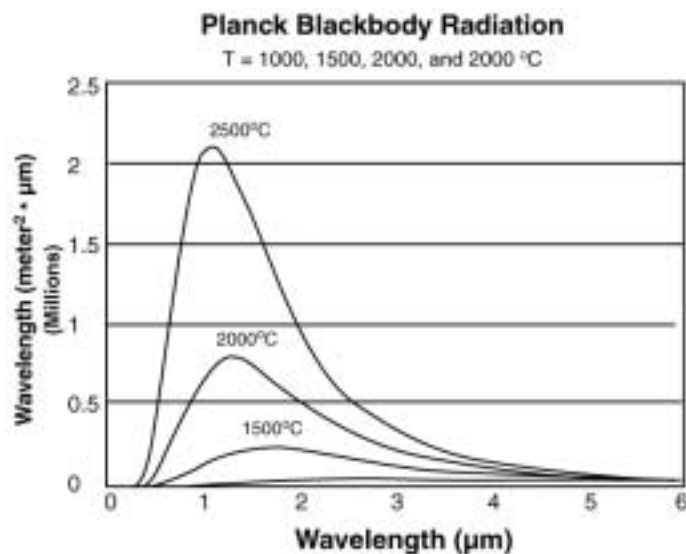

Figure 3: Blackbody radiation spectra
*Low temperature gradient vs. background thermal emission (stray light)* – Pyrometers operate on the principle that the object to be measured emits thermal energy at some wavelength in sufficient quantity to be detected in accordance with Planck's Law (see Figure 3). However if the object's thermal emission (signal) is too low relative to the background thermal emission (interference), the instrument will be unable to distinguish between the two. The use of longer wavelengths ( $>1.5\mu\text{m}$ ) can mitigate this but at the expense of sensitivity. Pyrometer filtering is also aimed at reducing this. Supplemental light shields and baffles can be employed as well.
*Stray room light immunity* – Most stray light interference comes from room light with spectra in the near-IR and visible range. Longer wavelength pyrometers are less susceptible to this room light interference because these operate beyond the visible spectrum. They can also measure lower temperatures because there is more radiation of longer wavelength available at lower temperatures (see Figure 3). However there is a tradeoff. Longer wavelength pyrometers are more susceptible to larger measurement error caused by errors in emissivity, resulting in reduced accuracy, resolution and limiting dynamic temperature range.
In addition, shorter wavelength pyrometers have an inherent accuracy advantage due to the nature of the Planck curves (see Figure 3). For example, the change in signal per °C change at 1µm is three times greater than at 5µm.